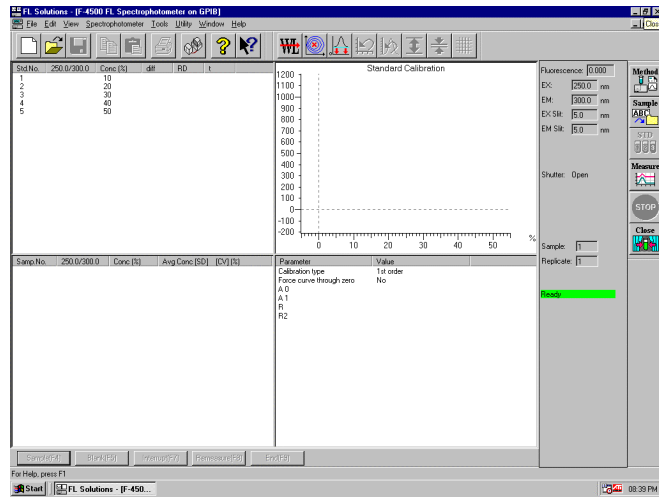

Fig. 4-20
- (1) Set the analysis method, and the window in Fig. 4-20 will appear provided a sample table is not used.